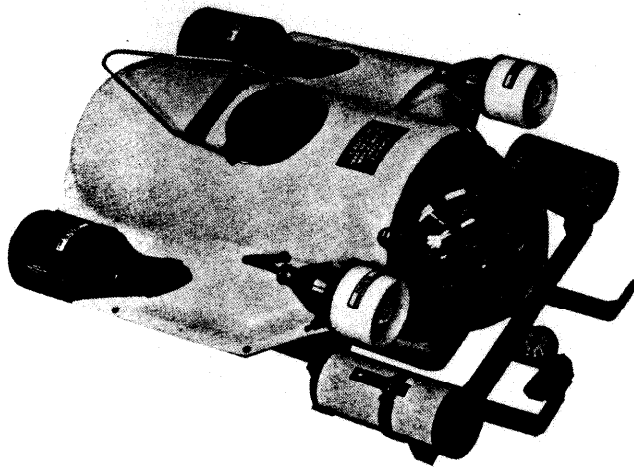

Figure 4. Model 3782 Minicamera
- d. Minicamera, Diver/ROV Systems (Figure 4)